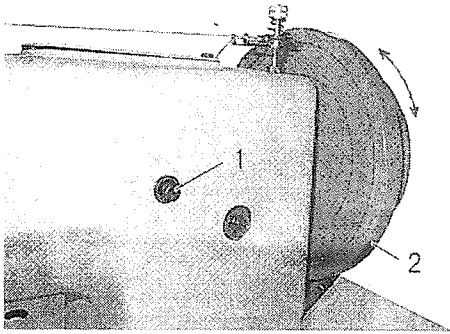

Fig.18
11. ADJUSTMENT OF THE STITCH LENGTH (Fig. 18)